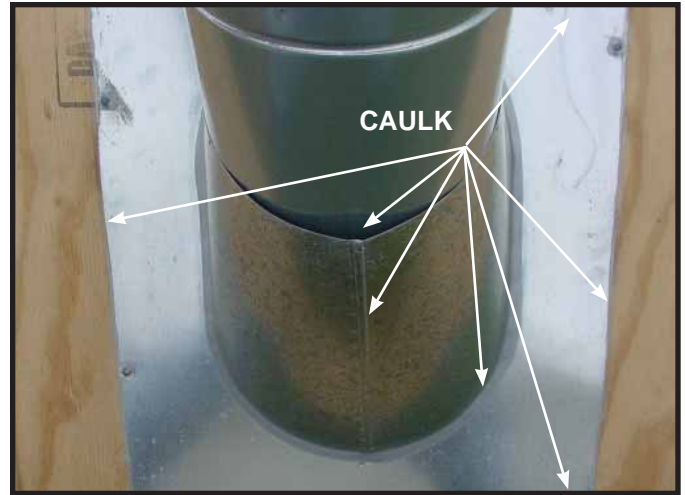

Figure 8.15
- Slide the roof flashing over the pipe sections extending through the roof as shown in Figure 8.15.
- Caulk the perimeter of the flashing where it contacts the roof surface. See Figure 8.15.